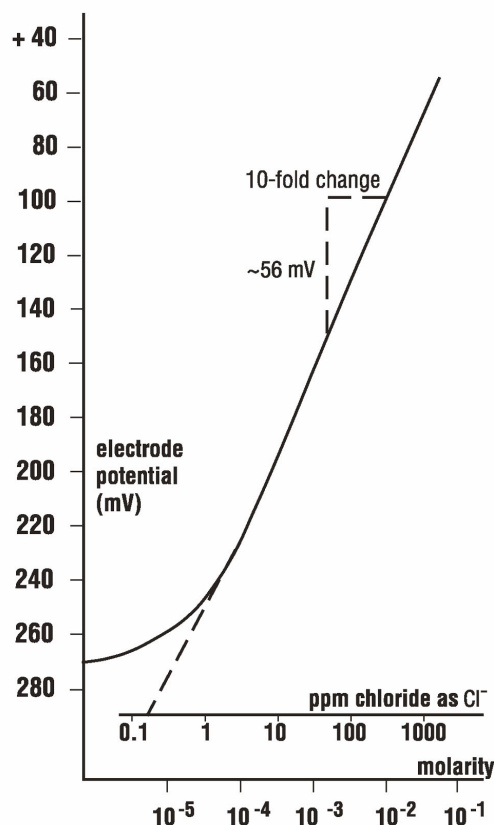

Figure 3: Typical calibration curve
5. On a semi-logarithmic graph paper, plot the voltage readings (linear axis) against the concentration (logarithmic axis). See Figure 3 for a typical calibration curve